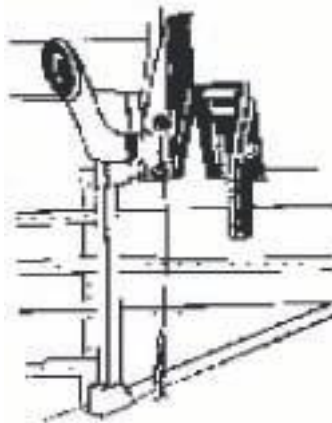

Figure 5-14. Quick Release Mechanism
b. Two release assemblies are mounted on the anchor bar fifteen inches from each end. Each is comprised of a quick release mechanism that provides an anchor point for the fast rope (Figure 5-14).